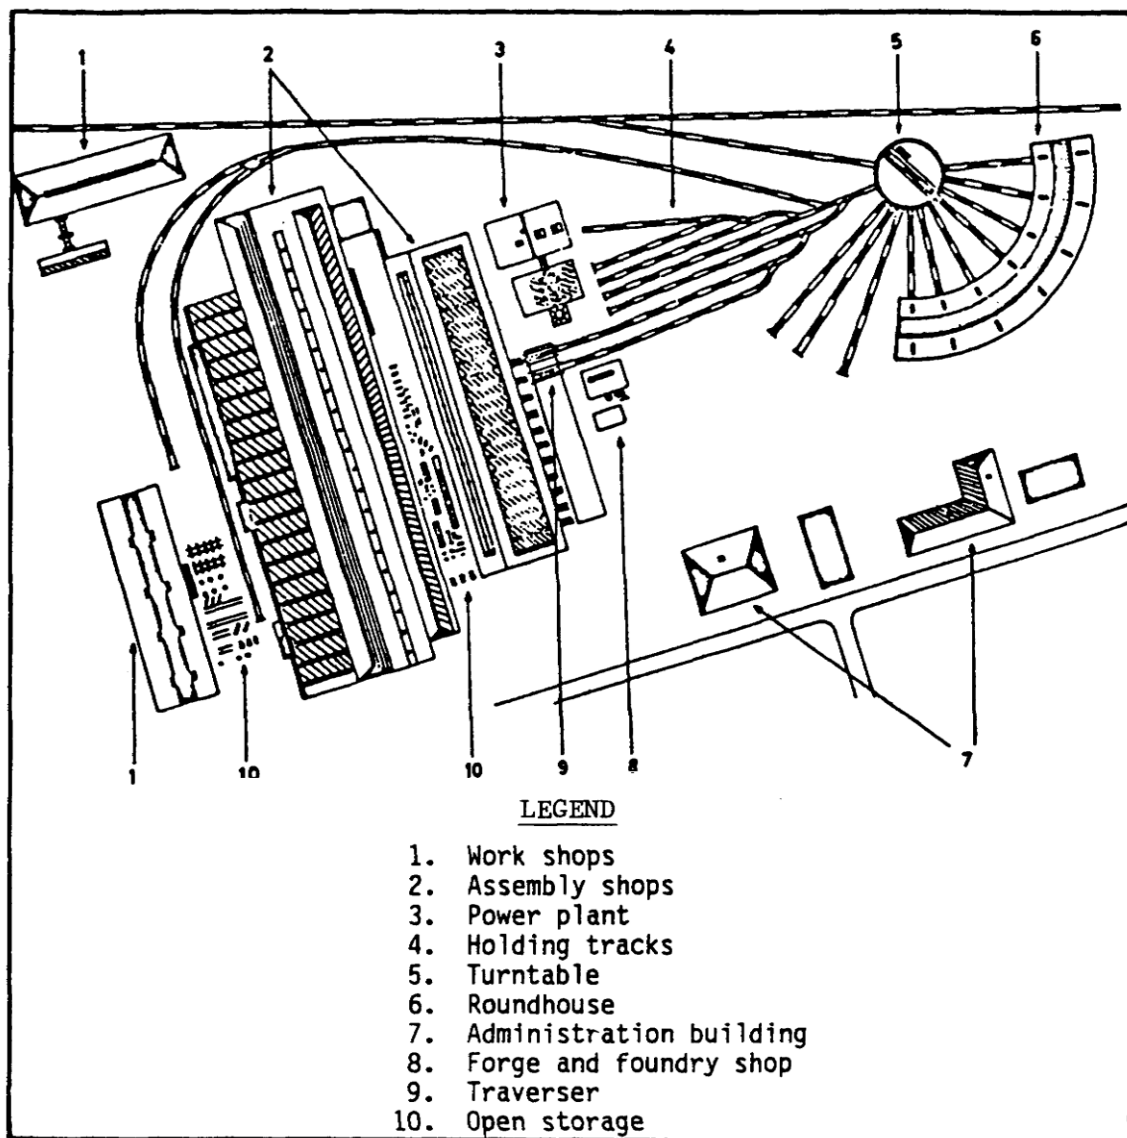

Figure 1-15. Railway Repair Plant.
3. Railcar and locomotive repair shops (Figure 1-15). These repair shops are normally found close to the roundhouse and serviced by dead-end spurs called "shop tracks" or traverser tables. This area may all be in the open or may have buildings large enough to house rolling stock. These buildings are usually long, low rectangularly shaped with tracks running up to them, or they will be serviced by a traverser table. This area is usually for repair of rolling stock other than locomotives. Quantities of supplies should be noted in the area such as piled lumber, sets of wheels, etc. Boiler house or power plant, stores, administration and paint shops may be present.